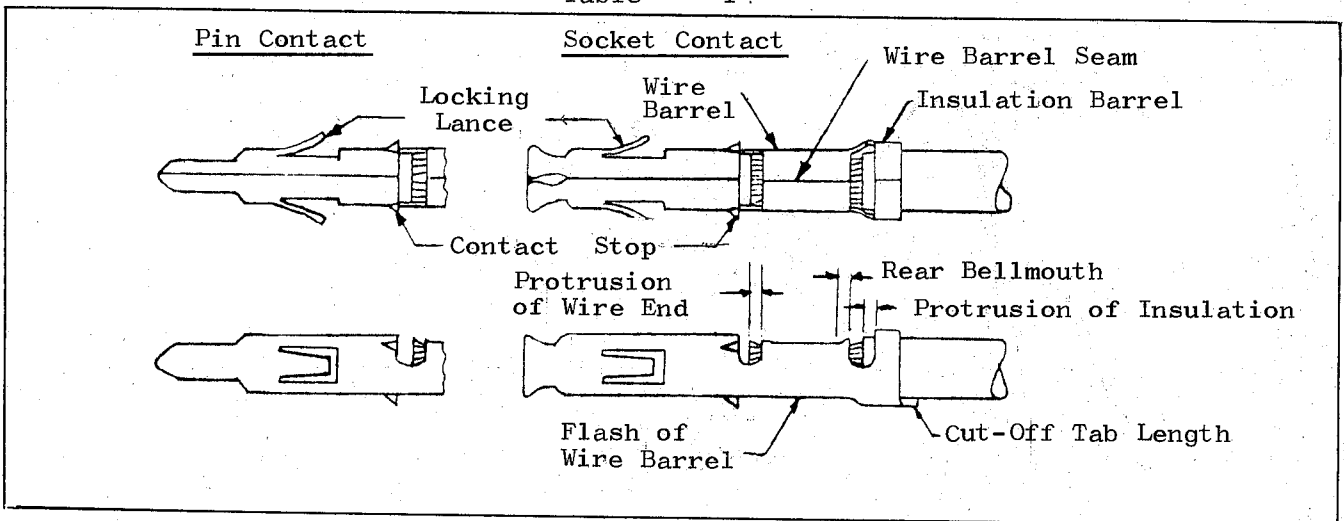

Figure 1
b. Die identification code (usually, figure 1, 2, or 3 .... are used) is necessarily put on each of product to identify the die with which the products were manufactured.